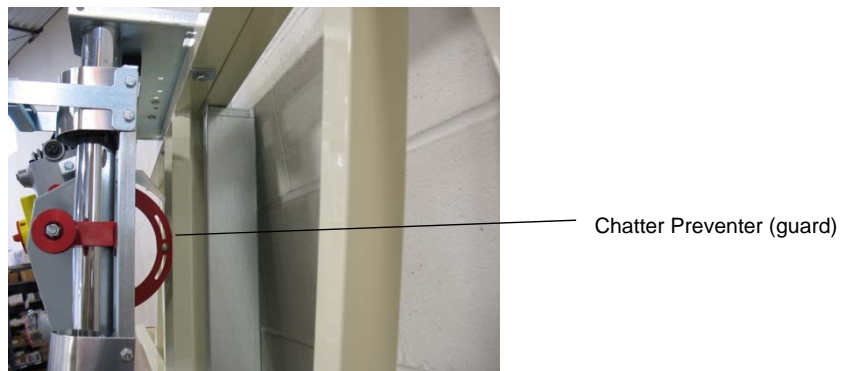

Figure 35: Chatter Preventer (guard) in position for crosscutting
12. When making cuts that are less than 1” (25mm), the chatter preventer (guard) (located inside the blade guard) must be resting on the work piece, not on the cut-off piece. See page 43, Fig. 35. If it is not positioned this way, it will jam the work piece and prevent the carriage from continuing through the cut. **If the saw jams, turn the saw OFF** and wait for the blade to stop. Then back the saw out of the cut.